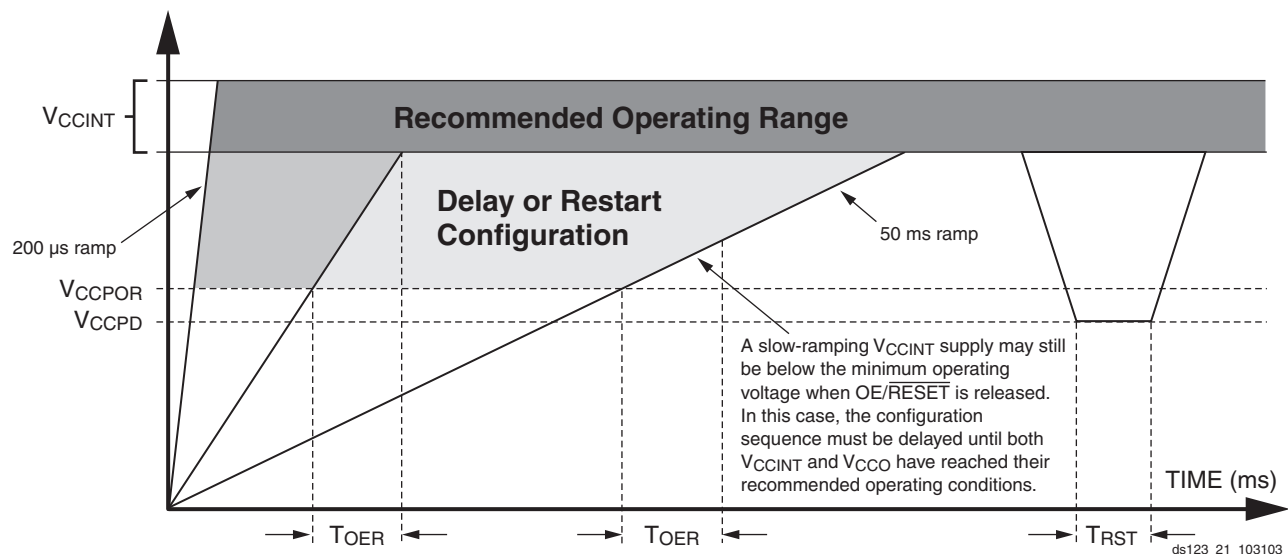

Figure 14: Platform Flash PROM Power-Up Requirements
and $\overline{OE}/\overline{RESET}$ is again held Low until the after the POR threshold is reached. $\overline{OE}/\overline{RESET}$ polarity is not programmable. These power-up requirements are shown graphically in Figure 14.
- At power up, the device requires the V_{CCINT} power supply to monotonically rise to the nominal operating voltage within the specified T_{VCC} rise time. If the power supply cannot meet this requirement, then the device might not perform power-on-reset properly. See Figure 14, page 24.